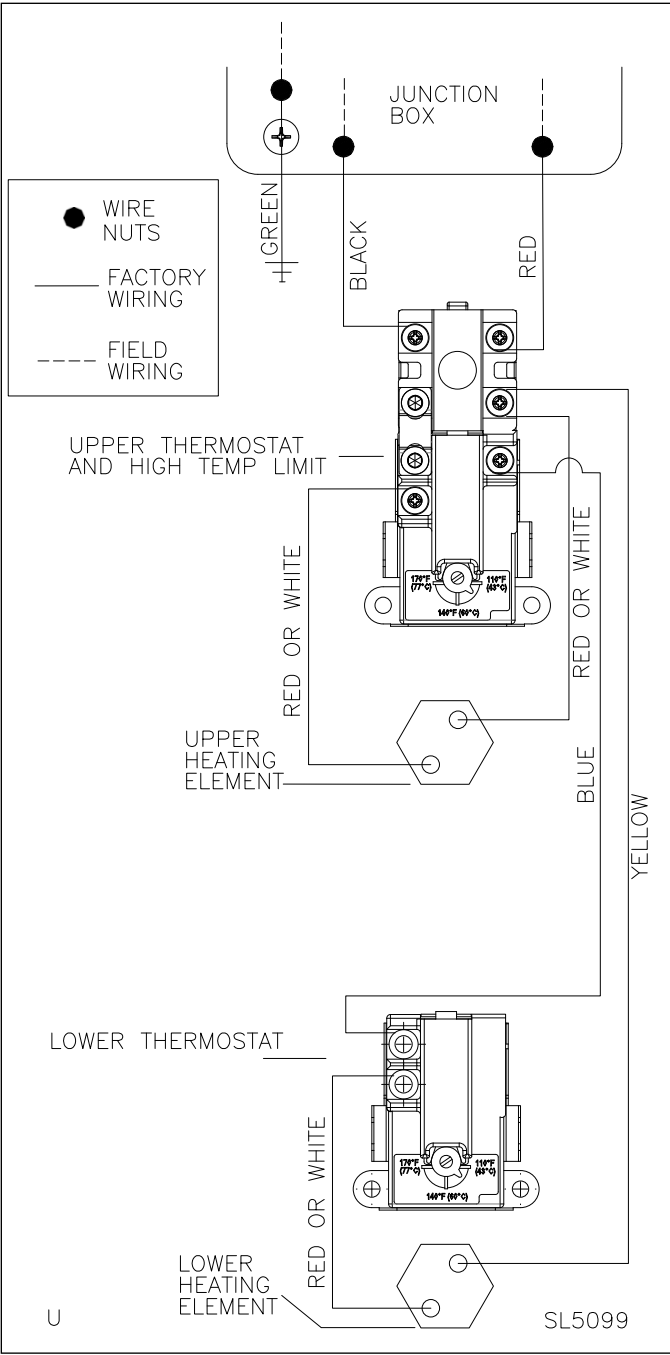

Figure 6 - Dual Element Model Wiring Detail, Non-Simultaneous Element Operation - Green Wire for Grounding the Water Heater
**IF YOU NEED TO ADJUST THERMOSTAT(S) OR RESET THE ECO (RED RESET BUTTON)**
**STEP #4 - See Figure 6**